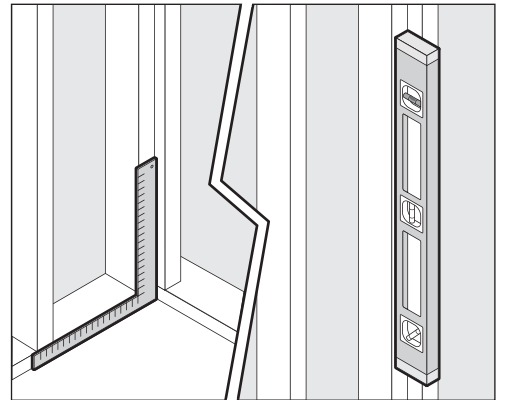

FIGURE 1. Check that studs are plumb with floor/tub.
- Check that the sub floor for the tub is level and studs are plumb to the sub floor. **(Fig. 1)**